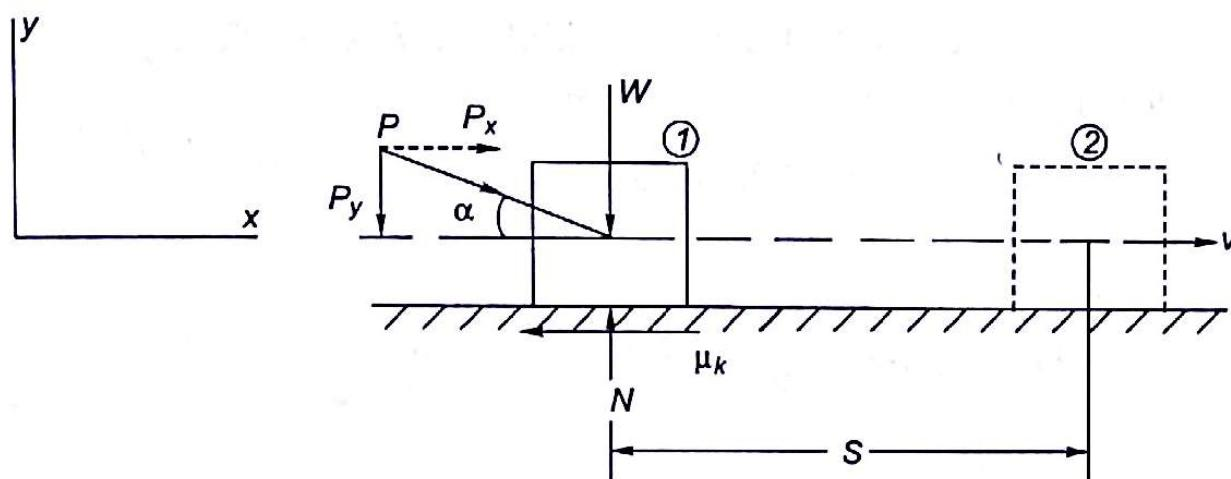

Fig. 19.5
Consider a block of weight W on a horizontal rough surface. A force P is inclined on the block. N is the normal reaction on the block and $F = \mu_k N$. N is the force of friction on the block, where μ_k is the coefficient of kinetic friction. The body has moved from position (1) to position (2). At position (2) the block has gained velocity V , (Fig. 19.5).